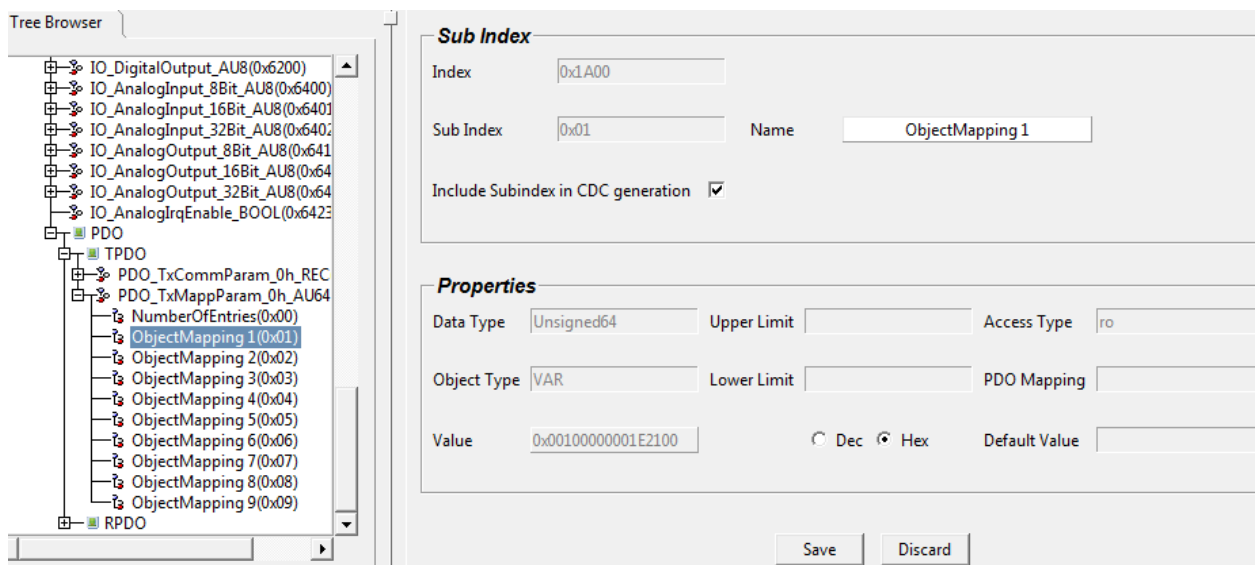

Figure 25
b) User can select that particular object in the tree and edit it as its for other objects as shown in Figure25